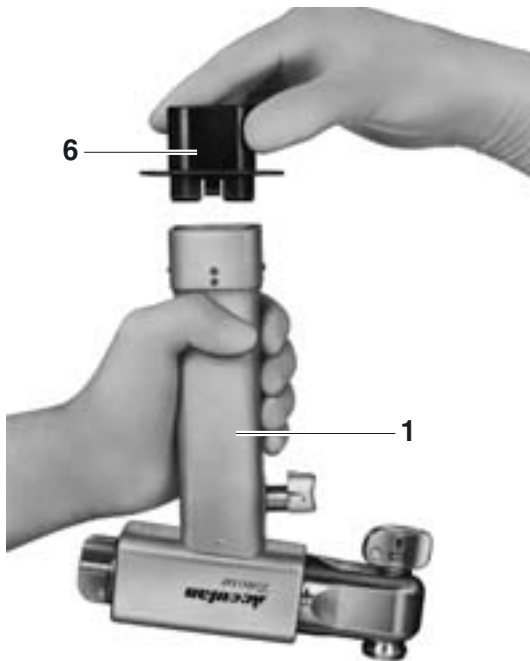

Fig. 1
6.1 Battery insertion (Fig. 1–3)